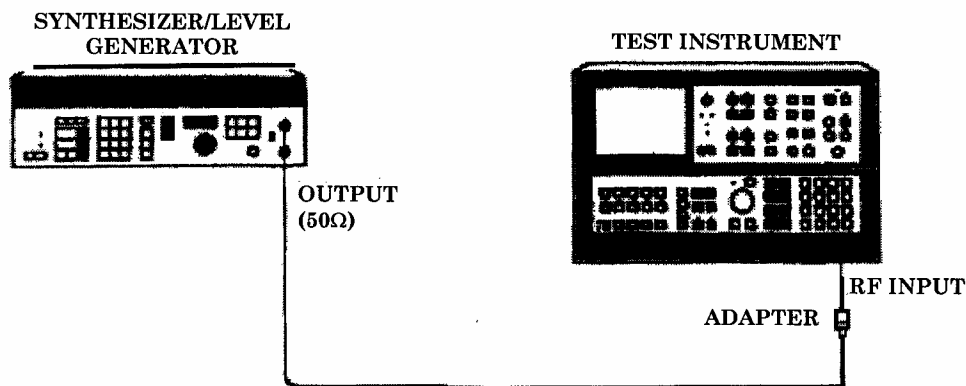

Figure 23. IF gain equipment set up
- (1) Press TI **2-22 GHz**.
- (2) Connect TI **CAL OUTPUT** to TI **RF INPUT**.
- (3) Press TI **RECALL, 8**.
- (4) Adjust TI **AMPTD CAL** control for a **MARKER** amplitude indication of -10.00 ± 0.02 dBm on the TI display.
- (5) Press TI **2-22 GHz** key.
- (6) Connect equipment as shown in fig. 23.